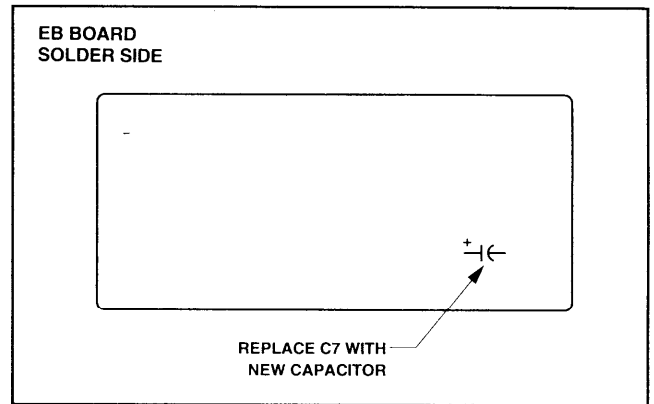

Figure 1
- Replace capacitor C7 (4.7 μ F, 200V) on the EB board with the new high-ripple current 4.7 μ F capacitor. (See Figure 1.)